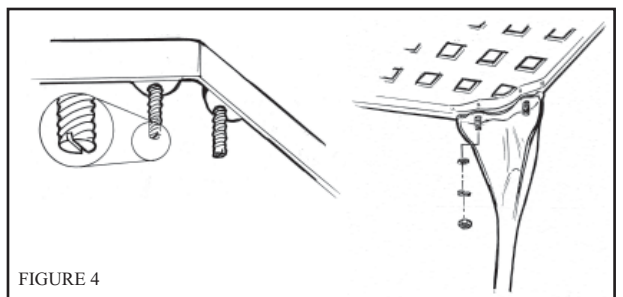

FIGURE 4
INSERT FOUR (4) HEADLESS BOLTS UNDERNEATH THE FRONT CORNERS OF THE SEAT PAN WITH THE SLOTTED END FACING OUTWARD. INSTALL FRONT CORNER LEGS AND INSERT ONE WASHER, THEN ONE LOCK WASHER, THEN ONE NUT OVER EACH BOLTS. SEE FIGURE 4.